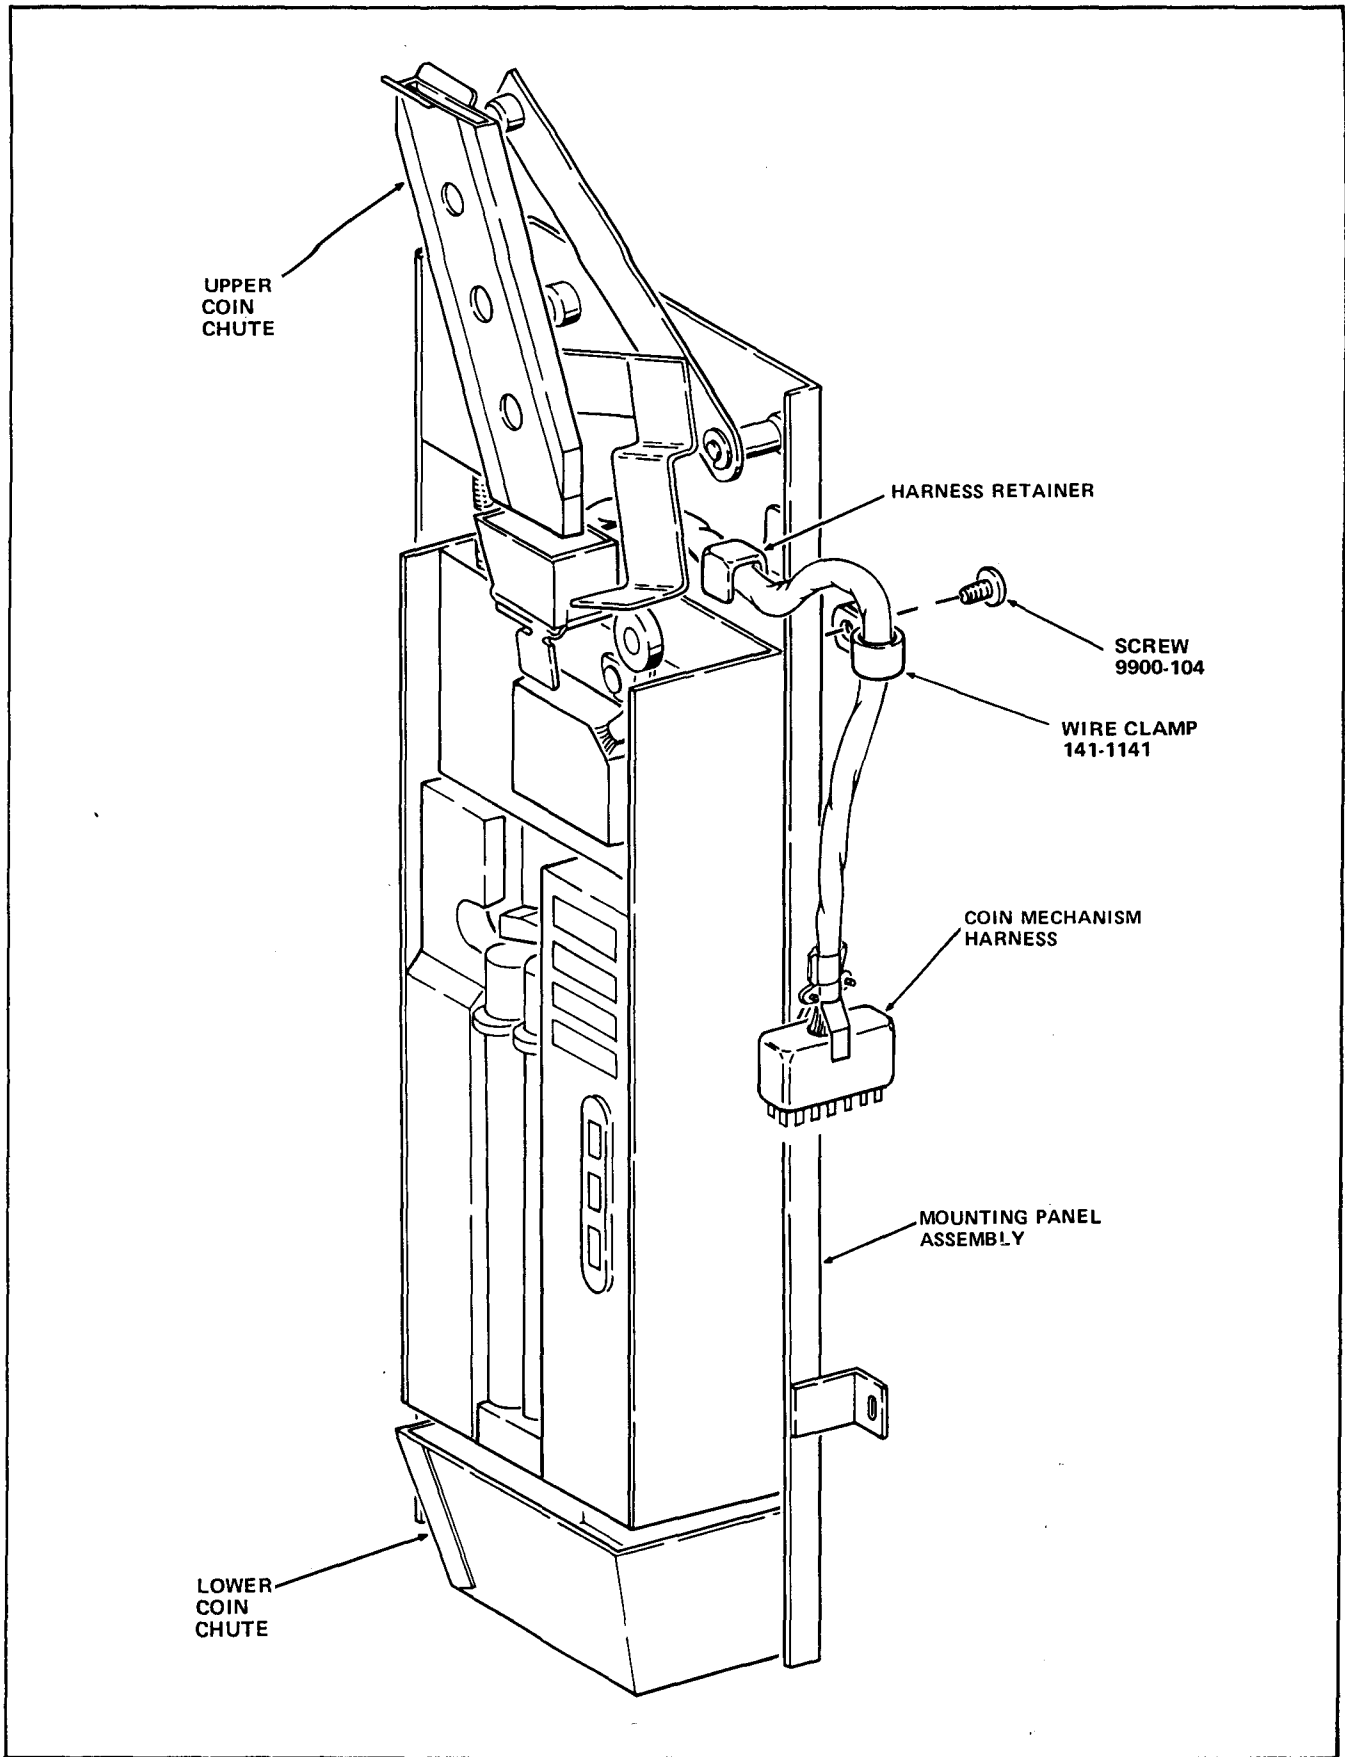

FIGURE 9
- d. Position the Coin Mechanism Harness so that it is held by the Harness Retainer of the Mounting Panel Assembly as shown in Figure 9.
21. Place the .375 Wire Clamp, part number 141-1141, around the Coin Mechanism Harness as shown in Figure 9 and attach to Mounting Panel Assembly with Screw, part number 9900-104. Both parts are included in the kit.
- a. Remove two attaching Screws and the Upper Coin Chute from the Mounting Panel Assembly. See Figure 9.
3. Check to see that the Lower Coin Chute (See Figure 9) is properly aligned with the Coin Mechanism. If the Chute is not aligned, adjust as follows: